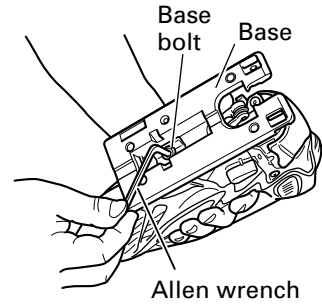
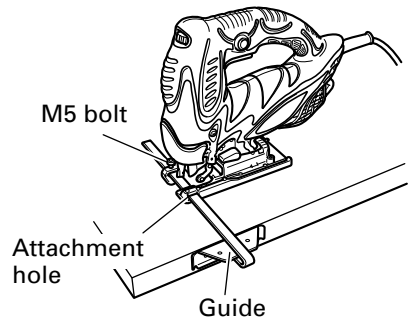

Fig. 10
Fig. 12
- (1) Loosen the base bolt allen wrench attached on base. (Fig. 10)
- (3) Attach the guide by passing it through the attachment hole on the base and tighten the M5 bolt. (Fig. 12)
- (4) Set the orbital position to "0".
**NOTE:** To ensure accurate cutting when using the Guide (Fig. 10), always set the orbital position to "0".
- (1) Loosen the base bolt by allen wrench attached on base and move the base fully forward. (Fig. 10, 11)
- (3) Tighten the M5 bolt again. (Fig. 10)
- (1) Remove the allen wrench from the base.
- (2) Move the base fully forward. (Fig. 10, 11)
- (3) Attach the chip cover.